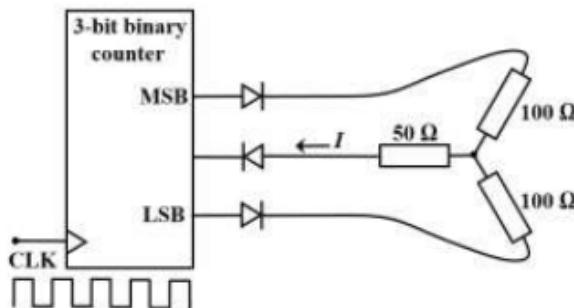

Fig. 5.6
6. For the 3-bit binary counter shown in Fig. 5.6, the output increments at every positive transition in the clock (CLK). Assume ideal diodes and the starting state of the counter as 000. If output high is 1V and output low is 0V, find the current  $I$  (in mA) flowing through the  $50\Omega$  resistor during the 5th clock cycle (up to one decimal place). (GATE IN 2018)